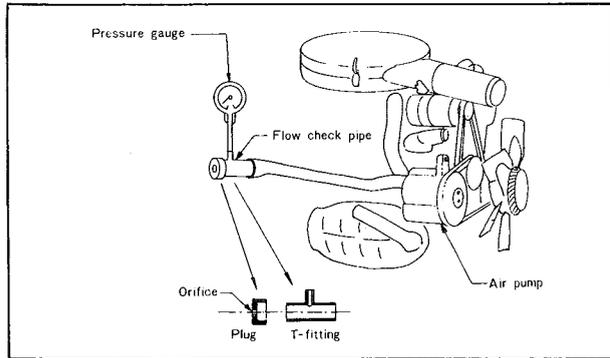

Fig. 1B-1 Checking air pump
6. Attach the **air pump gauge set** (49 2113 010A) as shown in Fig. 1B-1.